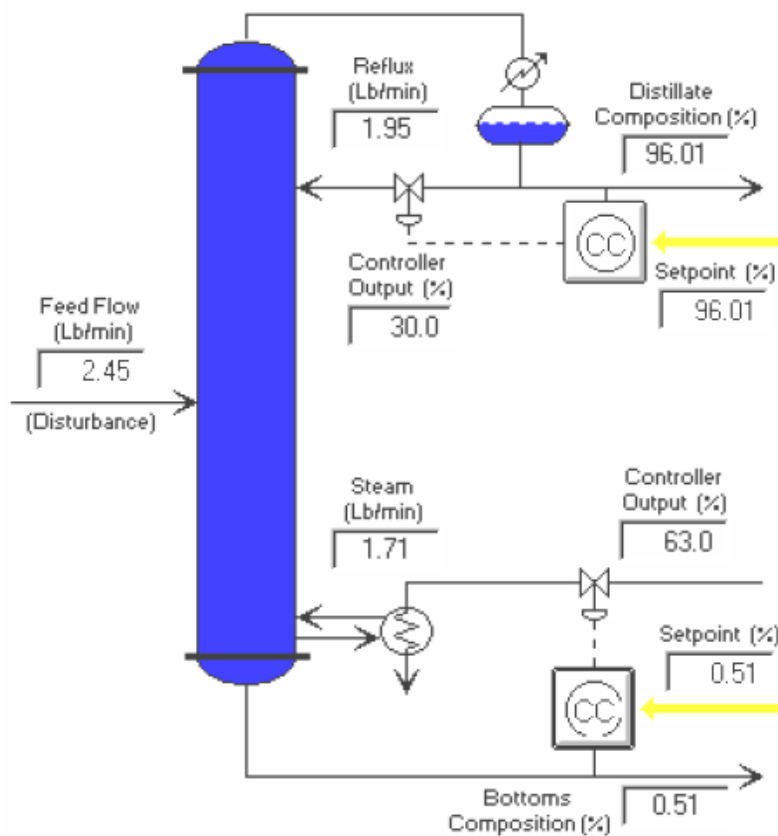

Figure 1: A distillation column
1. [a] Consider the distillation column as shown in Figure 1.